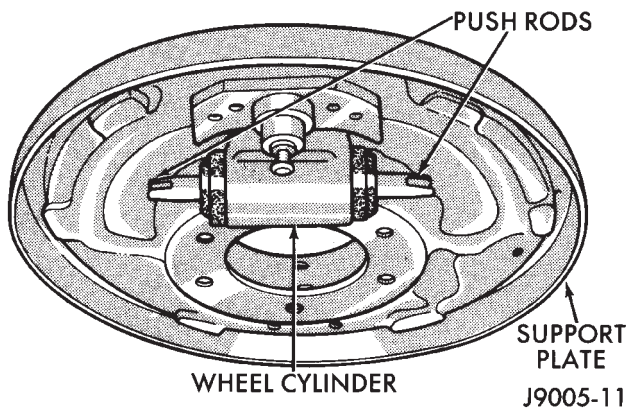

Fig. 10 Wheel Cylinder Mounting
- (1) Apply small bead of silicone sealer around cylinder mounting surface of support plate.
- (2) Start brakeline in wheel cylinder fitting by hand.
- (3) Align and seat wheel cylinder on support plate (Fig. 10).
- (4) Install cylinder mounting bolts (Fig. 10). Tighten bolts to 10 N·m (90 in. lbs.) torque.